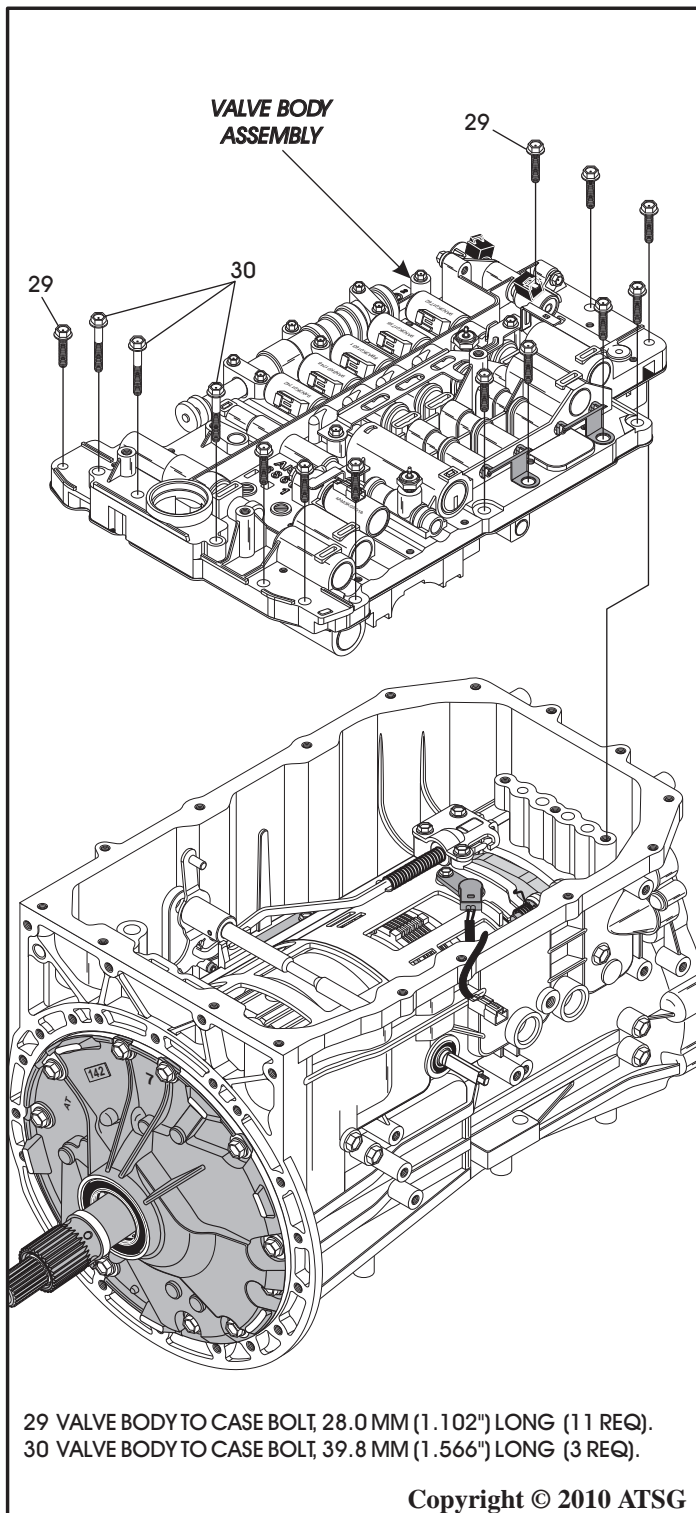

Figure 51
26. Remove the valve body assembly, as shown in Figure 51, and set aside for component rebuild.